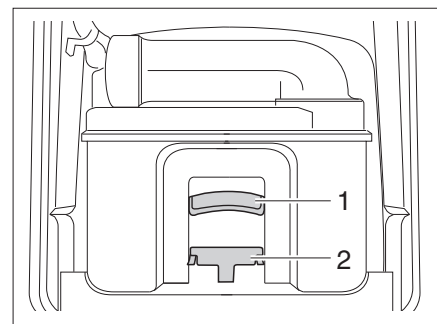

Fig. 144 Thetford cassette
- Pull the retaining clip (Fig. 144,2) forward to unlock the toilet cassette and pull out the cassette at the handle (Fig. 144,1).